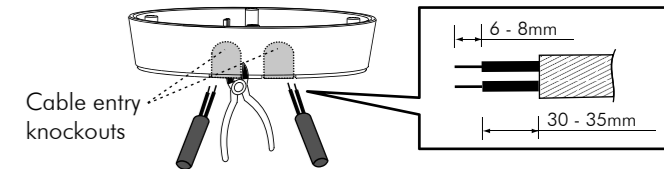

FIG.12
- 3.4.3.2 To feed AC power cables through the side of junction box, please use the cutting pliers to break the cable entry knockouts on the side of junction box, then feed cables through it. Strip off 6 - 8mm of cable sheathing for wiring (See FIG.12).